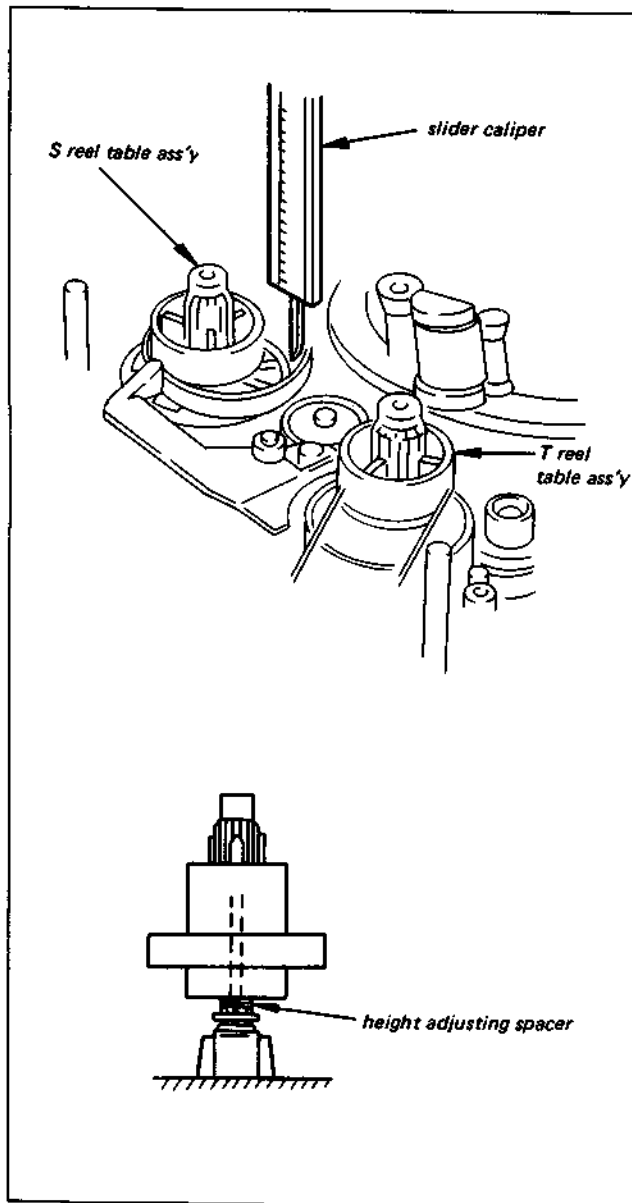

Fig. 3-12. Adjustment of reel table height
- 1) Measure the height of the reel table with a slide caliper prior to the removal of the old reel table. (See Fig. 3-12)
- 2) Position a new reel table, measure its height, and adjust the height by adding or removing the adjusting spacer so that the difference in the heights of the former and new reel tables is within 0.1 mm. (See Fig. 3-12)